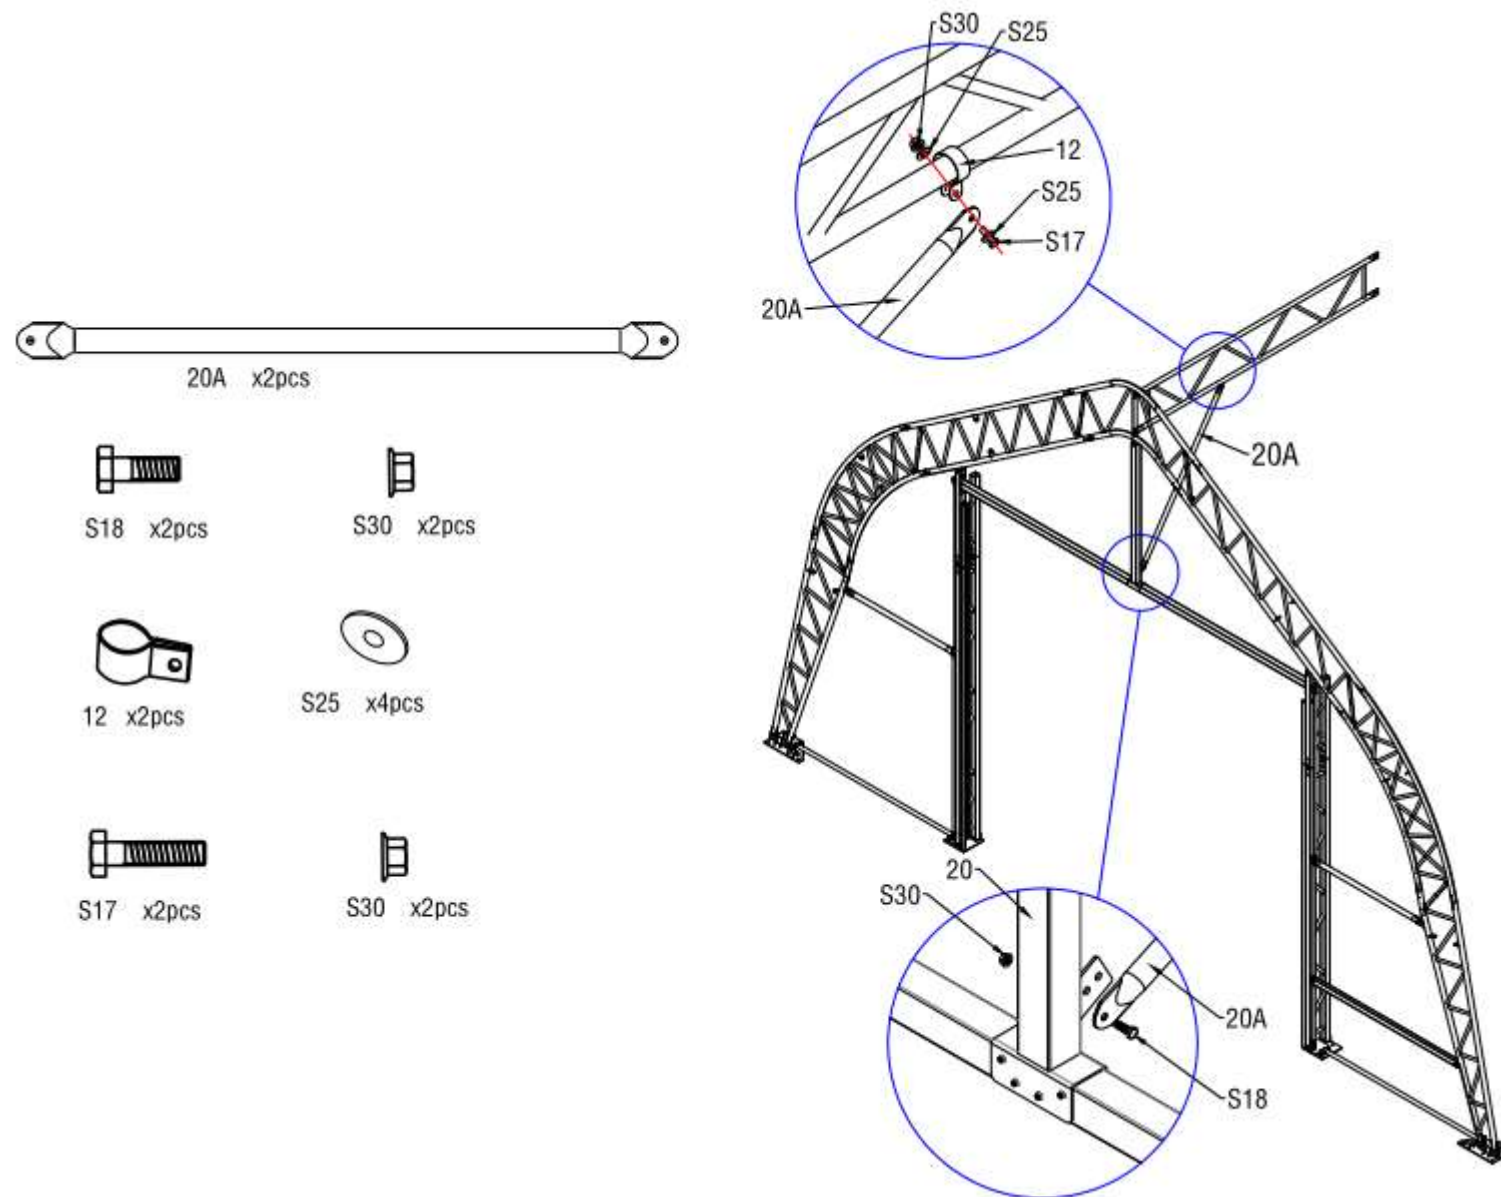

Figure 14
2. Fix clips (No. 12) on Double Trussed Purlins (No. 6) and install the Diagonal Support Tube For door beam (No. 20A) on clips as figure 14 shows. Please connect the Diagonal Support Tube For door beam (No. 20A) between door frame and Double Trussed Purlins (No. 6) by using Screw M10x30 (No. S18) and Screw M10x50 (No. S17) with plain washer M10 (No. 25).